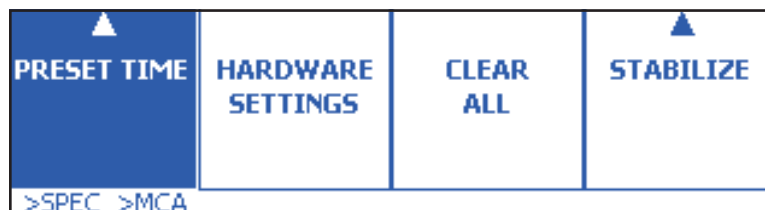

Figure 35 Preset Time Menu
- In the next menu level, select Preset Time (Figure 35).